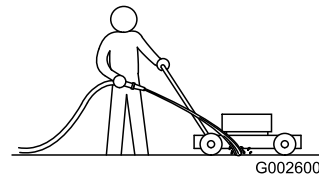

Figure 47
- With the engine running on a flat paved surface, spray a stream of water in front of the **right** rear wheel (Figure 47).